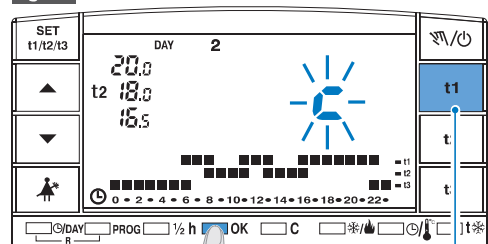

fig. 43
- Keep **t1** (fig.43) pressed until either the Differential set value (example **d06c**) or the Proportional mode cycle duration (example **P 10**) blinks on the display.